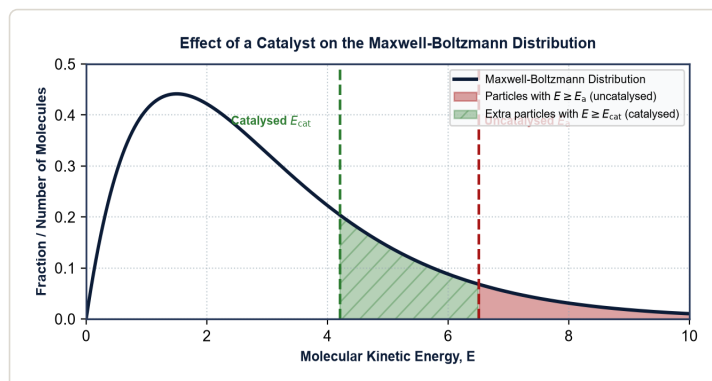

Fig. 8.3: Maxwell-Boltzmann distribution showing shift in activation energy with a catalyst.
Fig. 8.3 shows the effect of adding a catalyst to a reaction mixture on the Maxwell-Boltzmann distribution curve.
- (b) With reference to Fig. 8.3, explain how adding a catalyst increases the rate of reaction at constant temperature.